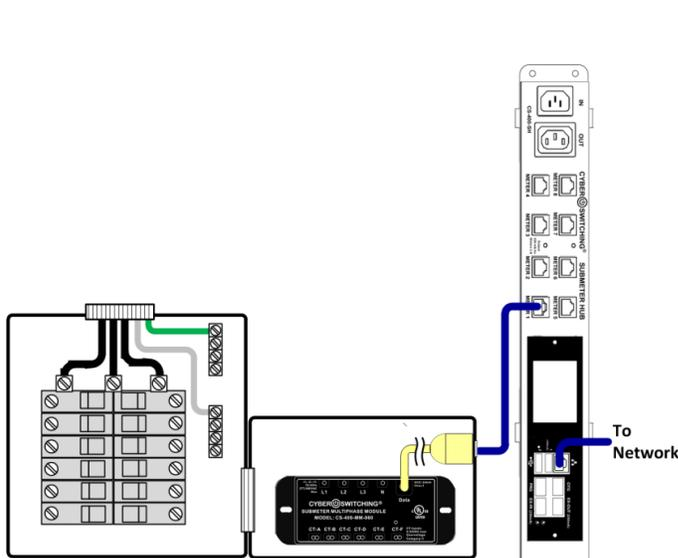

Figure 4: Typical submeter module installation inside Separate box outside electrical subpanel (1, 2)
1. Determine location to mount submeter module inside electrical cabinet, drill clearance holes if required. See figures 4 and 5 below for typical view.